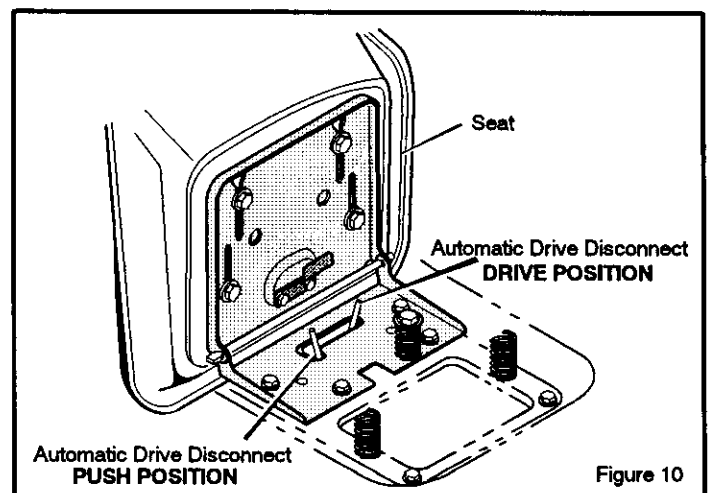

Figure 10
1. The **automatic drive disconnect** must be in the DRIVE position (Figure 10).
3. Move and latch the **automatic drive disconnect** in the PUSH position (Figure 10). The transmission is now *released* and the unit can be pushed.